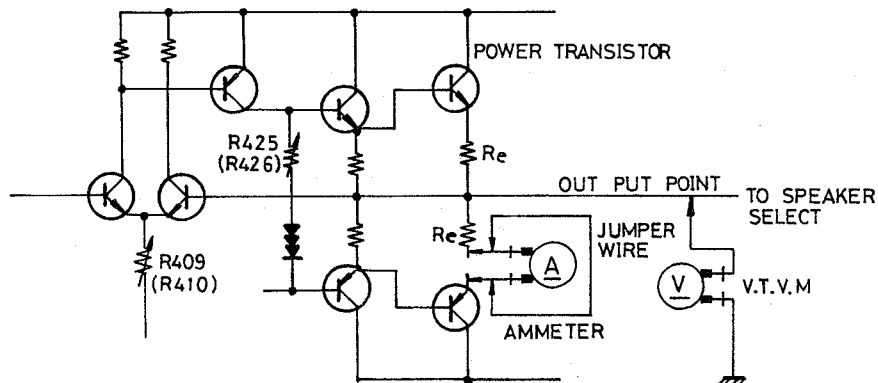

Fig. 4
Connect of a measurement instrument as shown Fig. 4. This circuit is the standard one of main amplifier.
- (1) Connect the probe of VTVM (D.C.) to a positive pole of output point. And connect the ground lead of VTVM (D.C.) to a chassis.
- (2) Insert an ammeter and a jumper wire together shown Fig. 4.